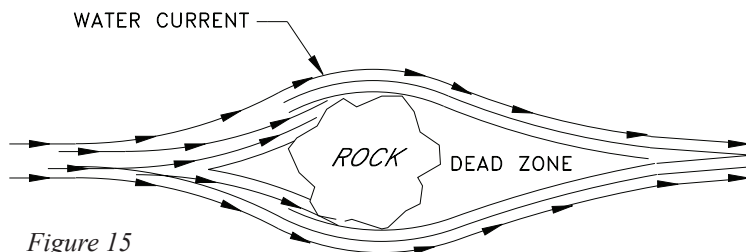

Figure 15
**7.2.5 Zones of Silence:** Large natural or man-made objects can block acoustical transmission under certain conditions, in much the same way that a rock blocks a fast-moving current of water. Close to the backside of the rock, in this example, the current is absent and the water seems still. A short distance away, the current is flowing again (Figure 15).